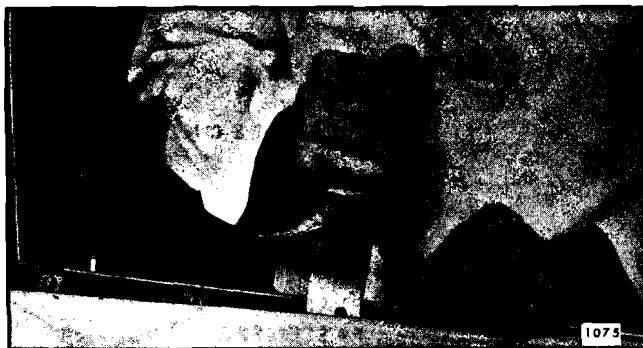

Fig. 6-7—Clip Retained Glass Run Channel Strip Assembly Removal
- b. Using a flat-bladed tool that is slotted to fit over tang of clip, disengage clips from slots in door panel return flange as shown in Figure 6-7.